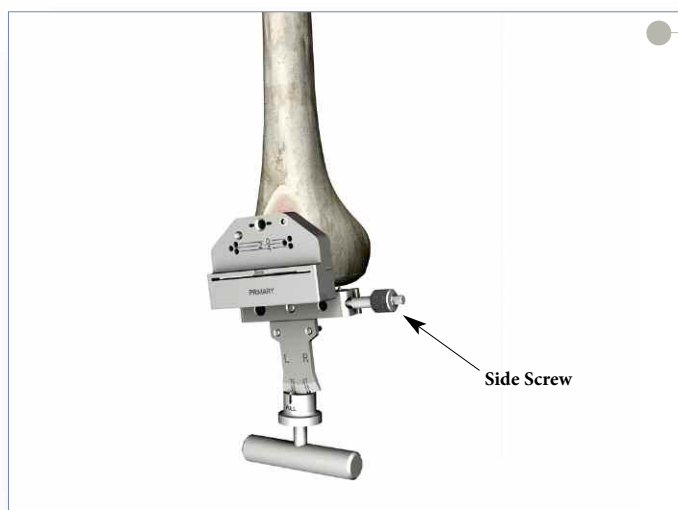

Figure 20
- ▶ Slide the assembly into the anterior holes of the Femoral Alignment Guide and lower the assembly down until the Distal Resection Guide sits flush on the anterior skin resection. Tighten the slide screw to secure the guide (Figure 20).